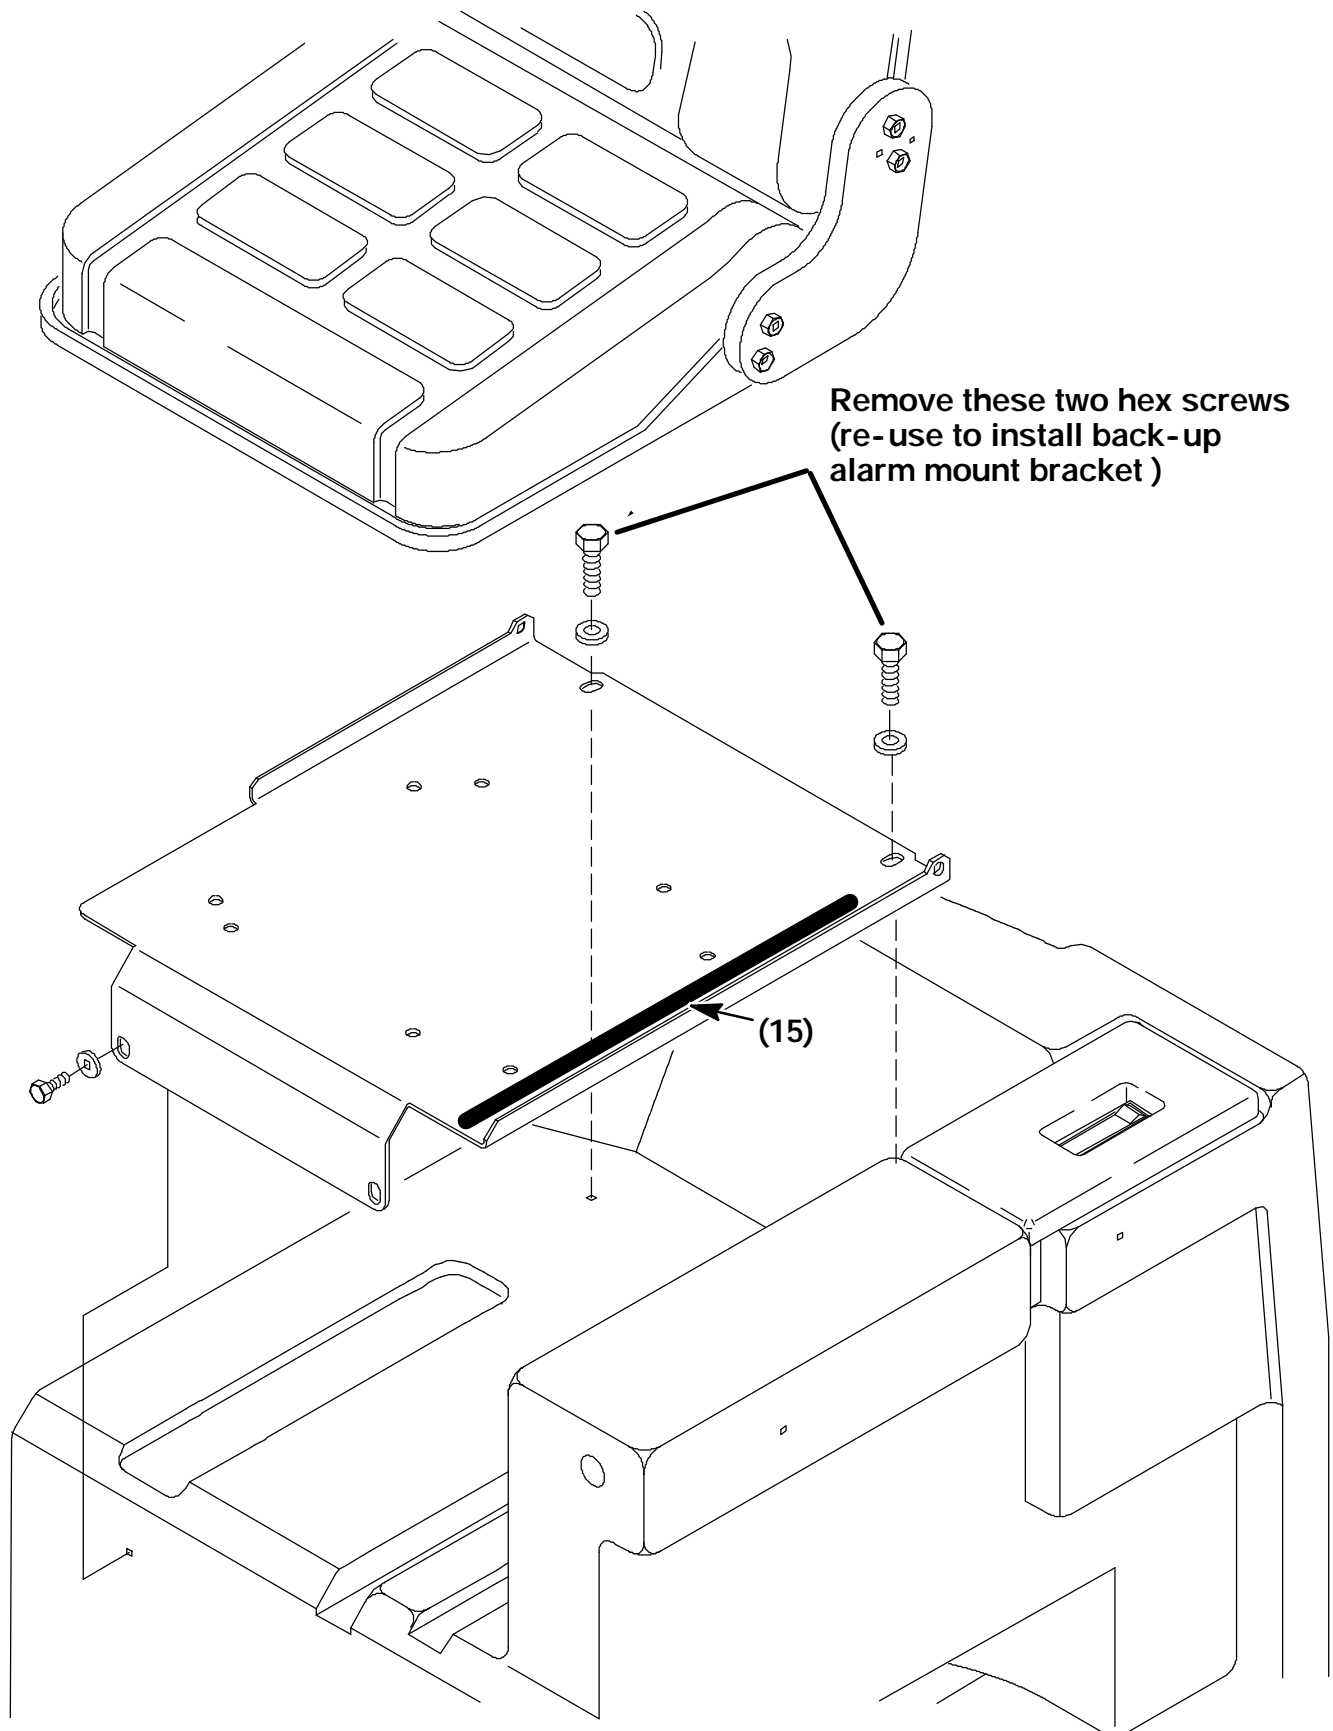

FIG. 3 - Back-up Alarm Assembly
1. Remove the two hex screws from the back of the seat mount plate. (Refer to FIG. 3)
3. Line up the two mount holes in the back-up alarm assembly mount plate with the two holes in the seat mount plate. Reinstall the two hex screws and tighten. (Refer to FIG. 3)
4. Install the longer vinyl duct (15) onto the inside edge of the existing seat mount plate. Open the vinyl duct up with a screw driver and route the new harness (13) into the channel, over to the front of the solution tank, down the inside of the operators compartment, and then to the relay panel. (Refer to FIG. 3)